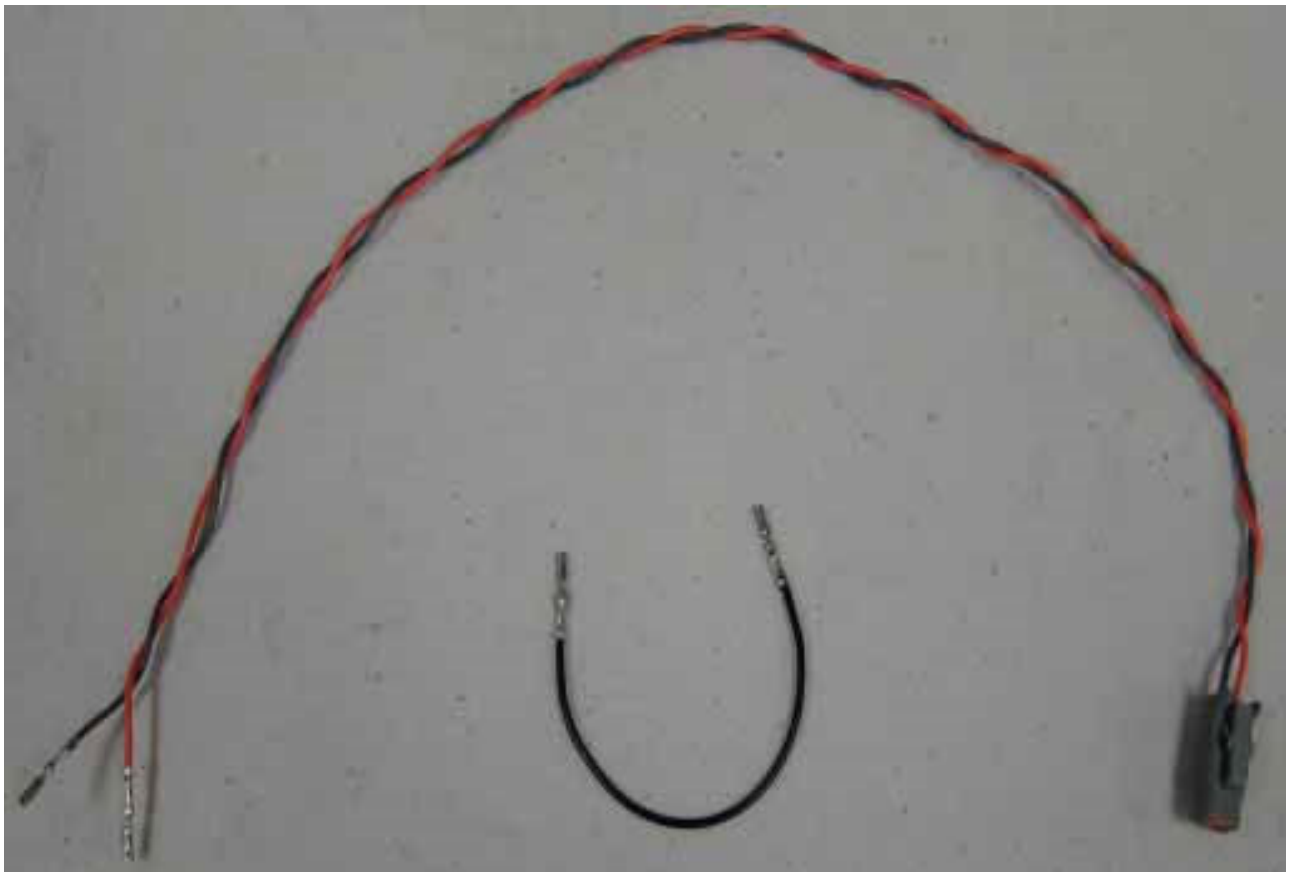

Fig. 28 – CANBUS wiring
1. To connect the HPEVS lithium battery pack to a Club Car Precedent with an existing HPEVS drive system, locate both the black wire and the CANBUS connector (orange/grey twisted wire). Both of these wires are for CANBUS communication (Fig. 28)